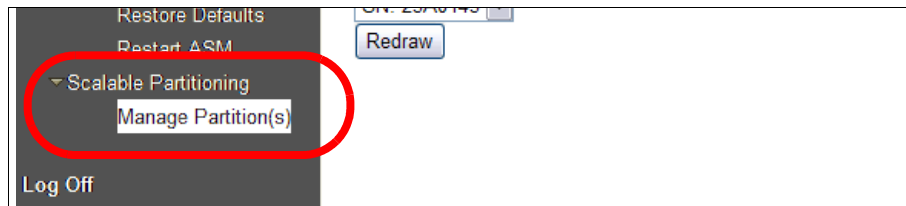

Figure 4-4 RSA II Web interface with enabled scalability features
- ▶ After you install the ScaleXpander chip, the Scalable Partitioning submenu appears in the RSA II Web interface, shown in Figure 4-4.